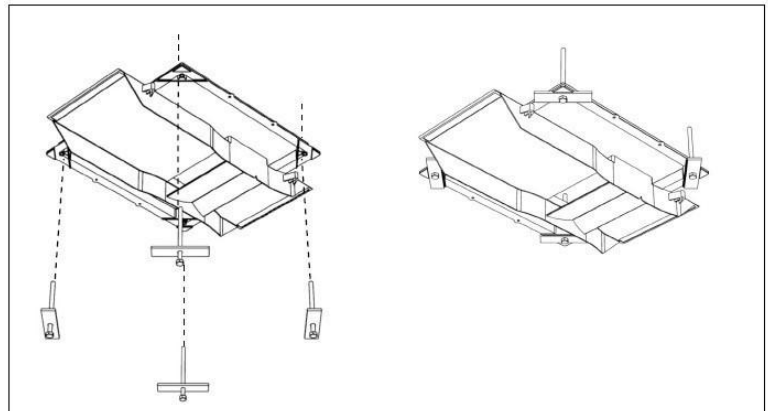

Fig 9: Insert the four M8 bolts and hold down bars into the corners of the brace
- Thread a hold down bar onto the M8 bolt and push the bolt almost all the way into the hole in each corner of the brace (Fig 9)